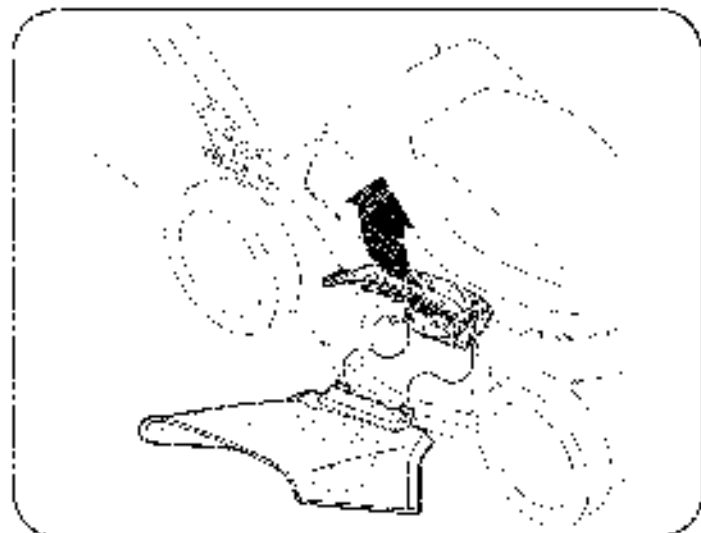

Figure 5
- Slide two hooks of side discharge chute under the hinge pin on the mulching plug assembly and lower the side mulching plug. See Figure 5.